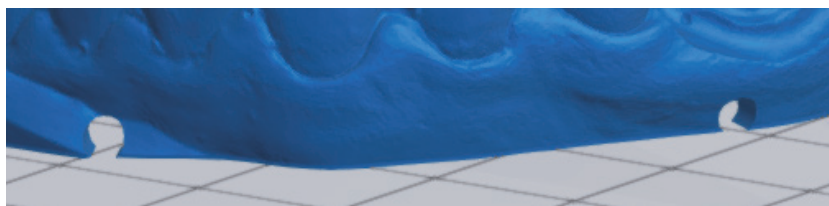

Figure 10
- ② Click the "Auto Drill Holes" tab to complete the drilling of the model, as shown in Figure 10.